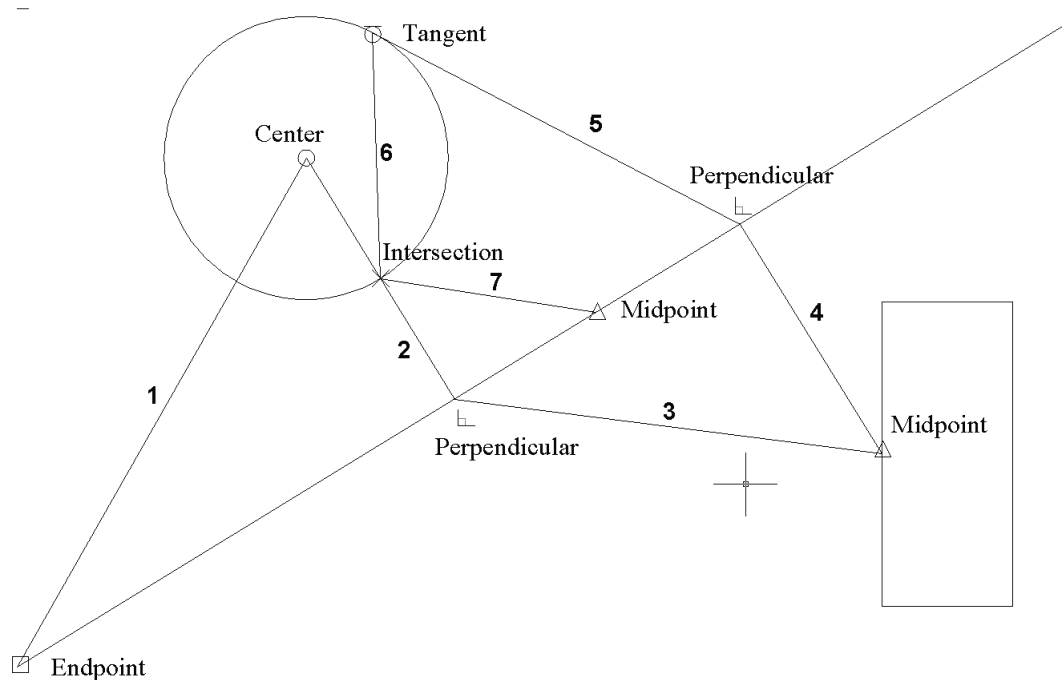

FIGURE 2-2.7 Several lines added using running OSNAPs.
8. Draw the additional lines shown in **Figure 2-2.7** using the appropriate *Object Snap* (changing the *Running Snap* as required to select the required point).